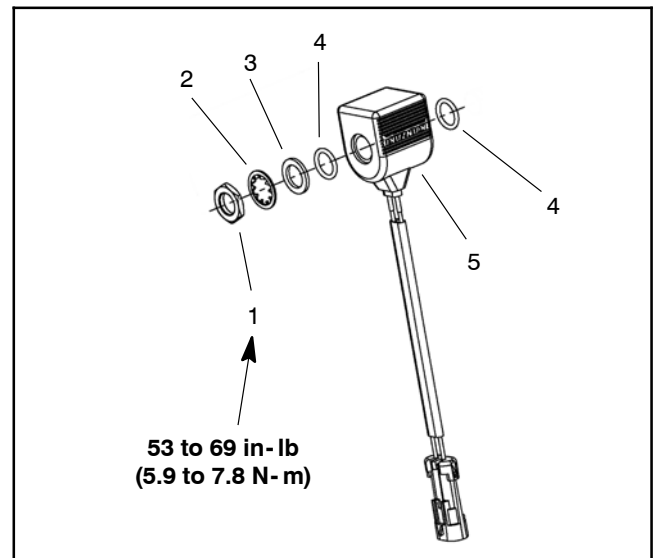

Figure 45
4. Slide the coil assembly from the solenoid valve stem (Fig. 45).
1. Slide new coil assembly, seals and washers onto the solenoid valve stem. Make sure to properly position seals and washers (Fig. 45).